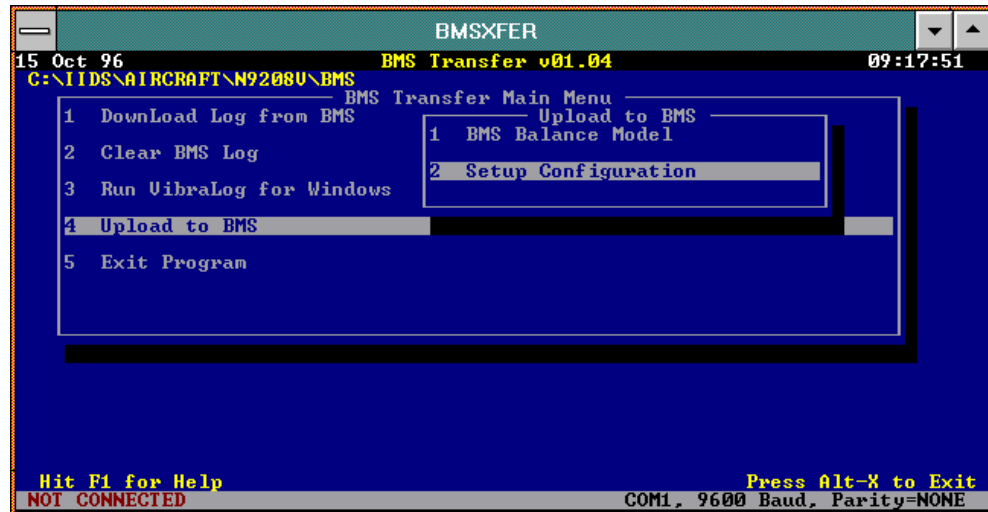

Figure 64. BMS Upload Screen
3. Select BMS Balance Model or Setup Configuration to upload using the (↑ ↓) arrow keys, or press the menu option number (1, 2, 3, etc.), and press the ENTER key (refer to Figure 64).